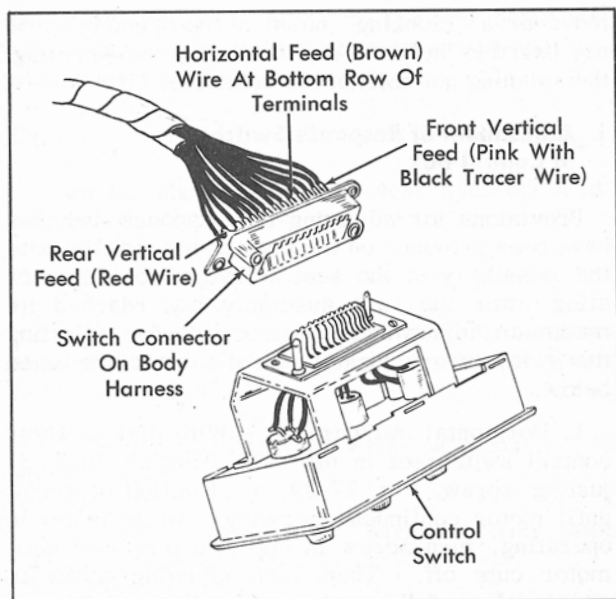

Fig. 17-88 Removal of Dial Selector Control Switch
2. With light tester, check for current at the following "feed" wire terminals on the control switch, Fig. 17-88.